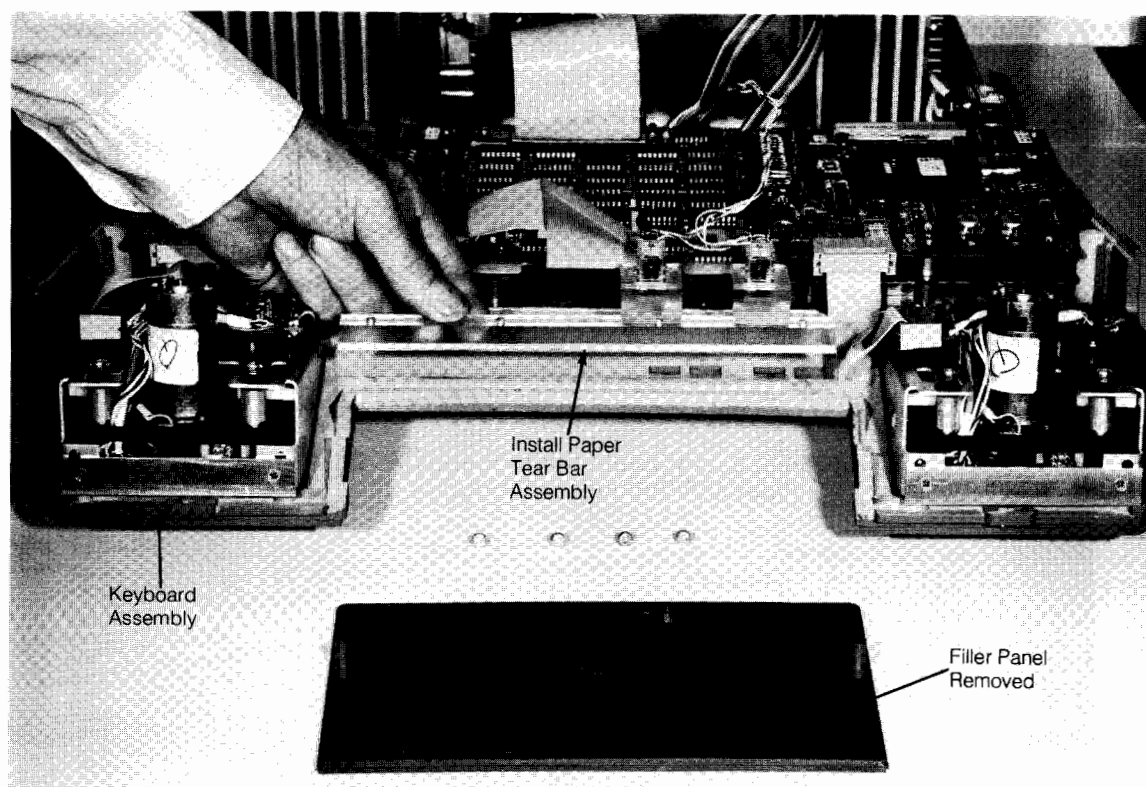

Figure 1-6: Computer Disassembly
- Remove the keyboard and set it on the mainframe chassis as shown in Figure 1-6.
- Remove the filler panel (Figure 1-6) from the keyboard.
- Install the clear plastic paper tear bar on the keyboard assembly with the four screws already inserted in the keyboard (see Figure 1-6).